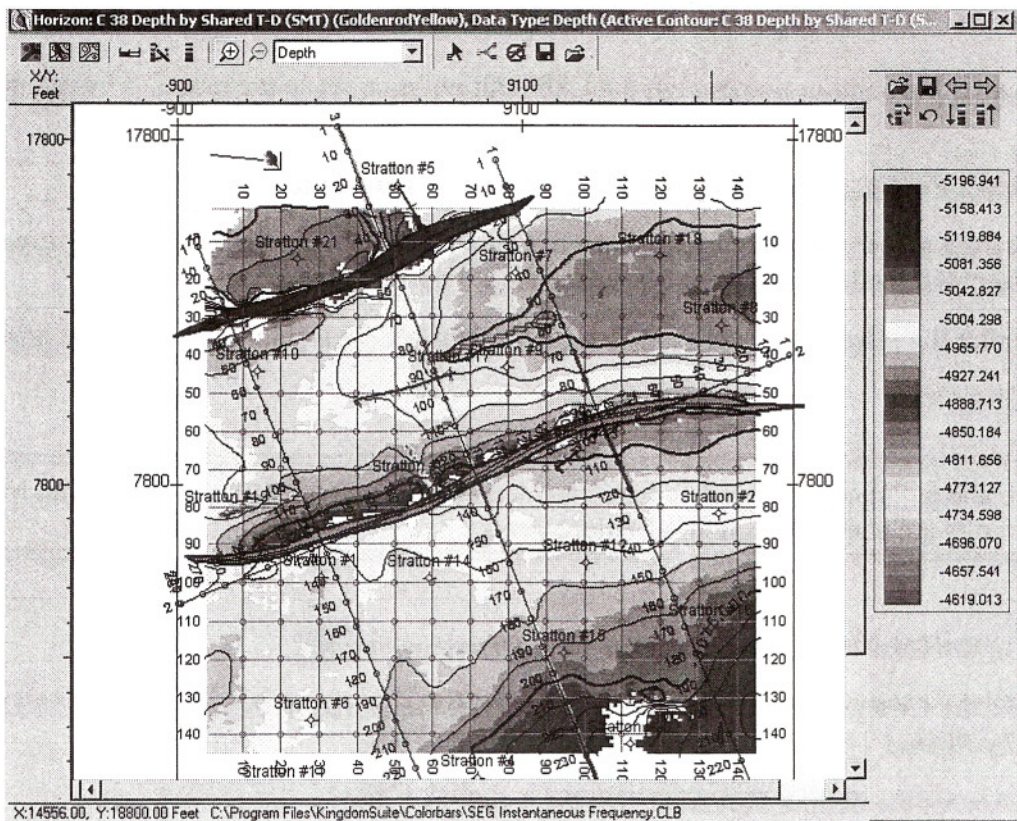

Figure 5.3 — C 38 depth horizon, fault polygon set and depth contours
9. Save the depth contours by selecting from the main menu bar, **Contours > Save Active Contour As**. Your map should look similar to Figure 5.3.